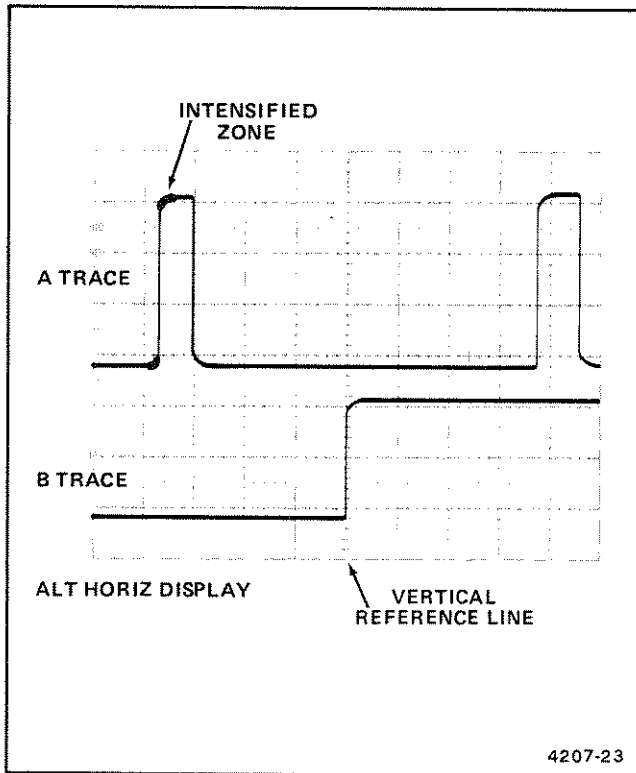

Figure 2-21. Time difference on single waveform.
5. Select ALT Horizontal MODE and adjust both the appropriate vertical POSITION control and A/B SWP SEP control to display the A trace above the B trace (see Figure 2-21).
7. Adjust the B DELAY TIME POSITION control to move the intensified zone to the leading edge on the first point of interest (on the A trace); then fine adjust until the selected portion (on the B trace) is centered at any convenient vertical graticule line (see Figure 2-21).